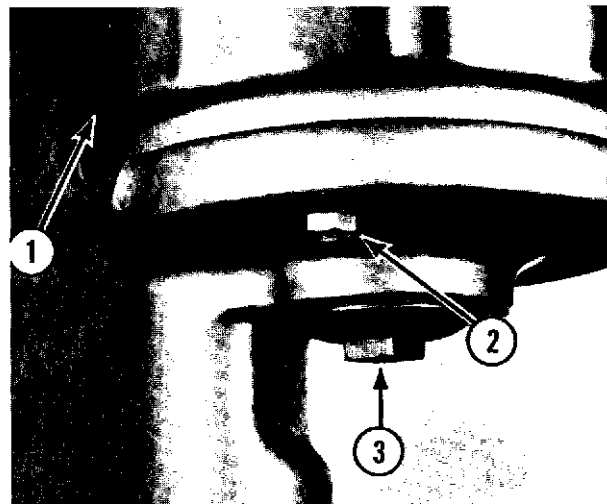

Fig. 10-2
- B. Remove the drip cup (1, Fig. 10-2).
- C. Drain the oil from the planetary. Remove the drain plug (2, Fig. 10-2).
- H. Remove the seal cap (3, Fig. 10-2).